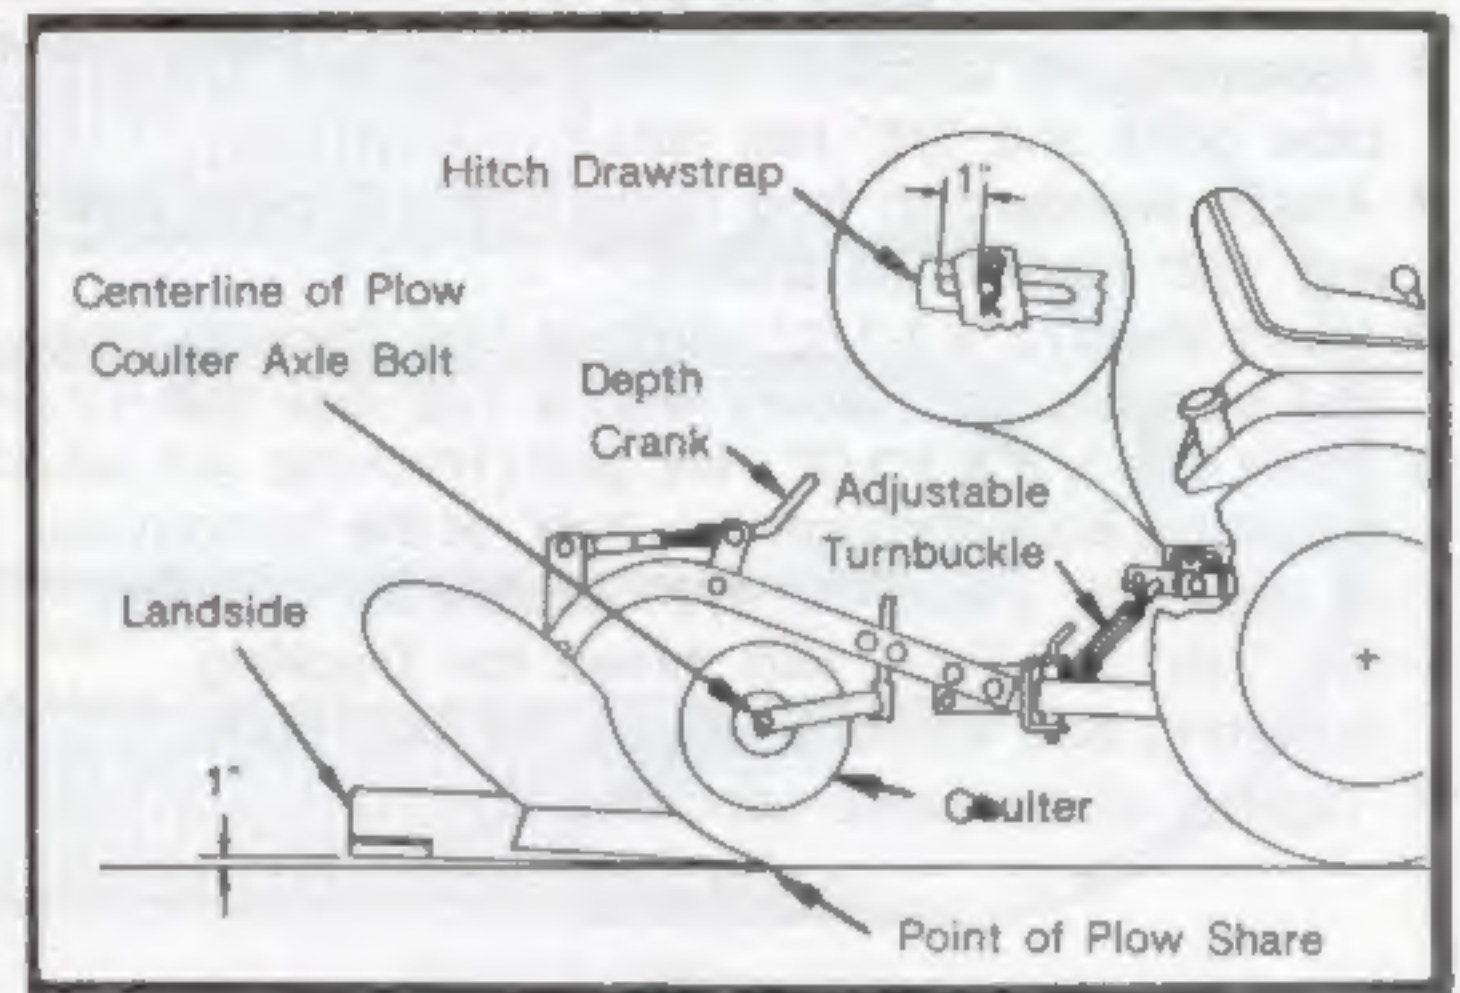

FIG. 5
PREADJUSTMENT (Refer to Fig. 5 and 6)
- Adjust the Depth Crank of Plow until Point of Plow Share is on the ground and the rear of Plow Landside is approximately 1" off the ground. (Refer to Figure 5)